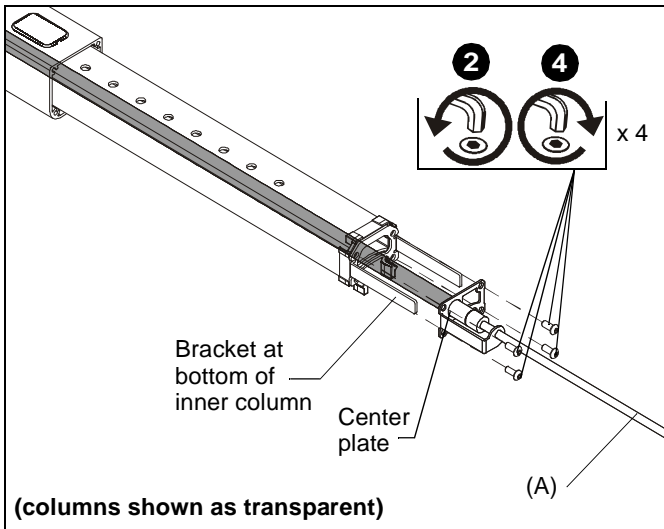

Figure 5
2. Remove four button head screws from bracket at end of inner column. (See Figure 5)
3. With gas spring assembly (A) inside the inner column, slide spring assembly up until the center plate rests against the bracket at bottom of inner column. (See Figure 5)
4. Fasten gas spring assembly (A) through bracket at bottom of inner column to inner column, using four button head screws removed in Step 2. (See Figure 5)